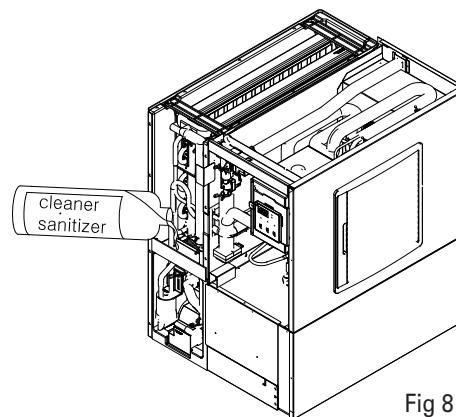

Fig 8
- 6) Remove front panel, and insulation Front (Fig 8). Add 16 oz. of Nu-Calgon ice machine cleaner into water tank. (for 650Lb or larger machines, add 24 oz.) Machine will proceed to the clean cycle after a 60 second time delay.
- 2) Mix 2.5 oz. of Nu-Calgon ice machine sanitizer per gallon of water and use with a soft towel/sponge/nylon brush to gently sanitize disassembled parts, plastic parts of evaporator, insulator front, and insulator top. (see Fig 8)
- 10) Remove front panel, and front insulation front (Panel 1 on Figure 8). Add 32 oz. of Nu- Calgon ice machine sanitizer. (for 650Lb or lager machine add 48 oz.) Machine will proceed to the sanitizing cycle after a 60 second time delay.